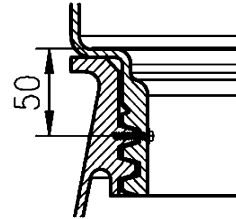

FIG. 12
- After screwing on the extension, you should prevent it from loosening by using the screws provided. To this end, drill a Ø 3mm hole in the lower threading zone of the extension and tank threading, then screw in the screws (See FIG. 12 below).